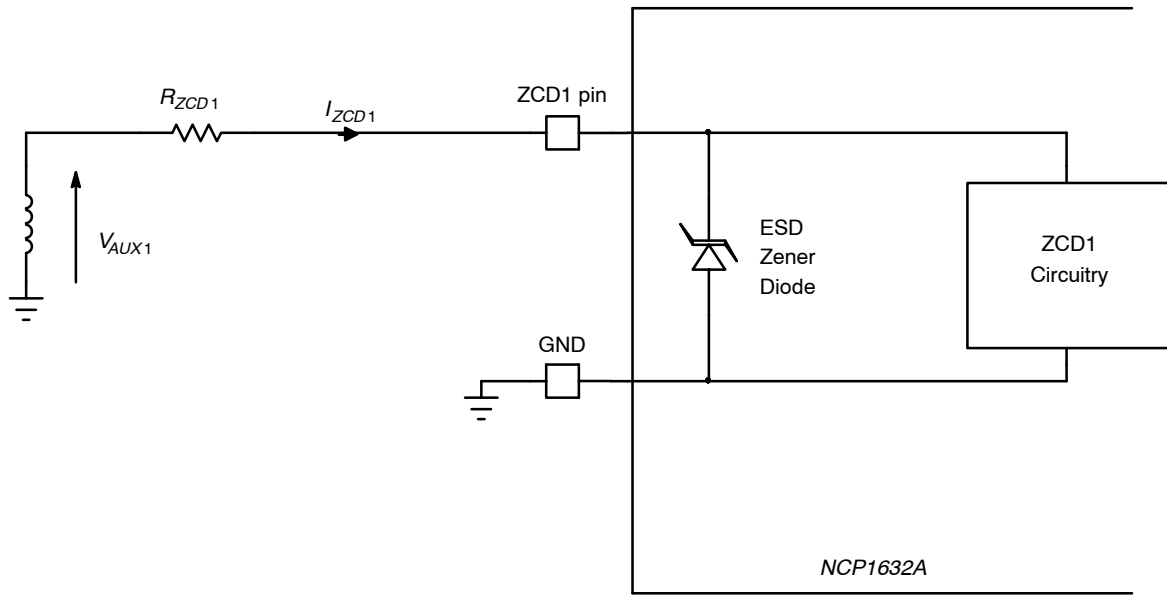

Figure 2. Limit the ZCD1 Pin Current (I_{ZCD1}) between – 5 mA and 5 mA (the Same is Valid for the ZCD2 Pin)
- These maximum ratings (-0.3 V / 9.0 V) guarantee that the internal ESD Zener diode is not turned on. More positive and negative voltages can be applied to the ZCD1 pin if the ESD Zener diode current is limited to 5 mA maximum. Typically, as detailed in the Zero Current Detection section, an external resistor is to be placed between the ZCD1 pin and its driving voltage to limit the ZCD1 source and sink currents to 5 mA or less. See Figure 2 and application note AND9654 for more details. The same is valid for the ZCD2 pin.